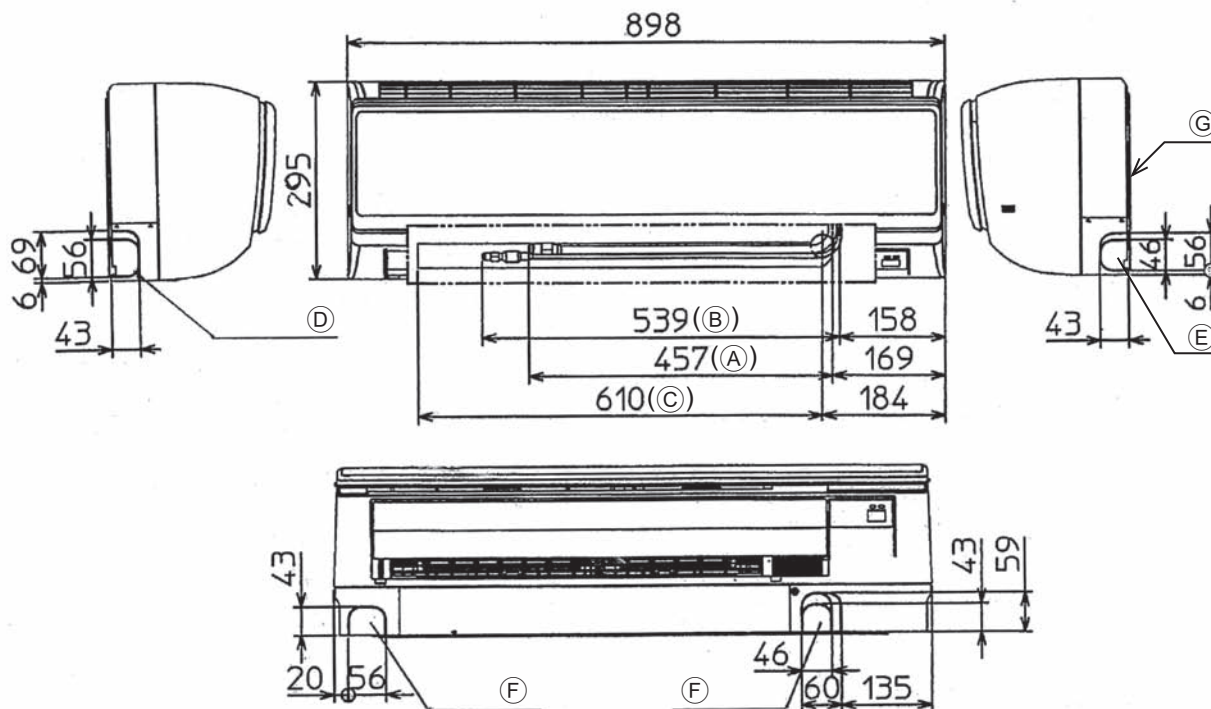

Fig. 4-2
4.2. Positioning refrigerant and drain piping (Fig. 4-2)